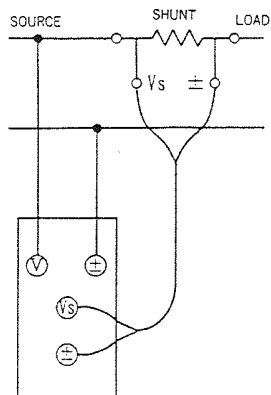

Fig. 3
- (2) As shown in Fig. 3, with the external shunt terminals on the load side. In this case, the power measurement includes a loss due to the resistance of the shunt.
Loss in Fig. 3 connection (VA): $(\text{current})^2 \times (\text{shunt resistance})$
Fig. 3 loss: $(100 \text{ A})^2 \times 0.5 \text{ m}\Omega = 5 \text{ VA}$
Fig. 3 loss: $(1 \text{ A})^2 \times 0.05 \Omega = 0.05 \text{ VA}$
Fig. 3 gives the best accuracy connections.